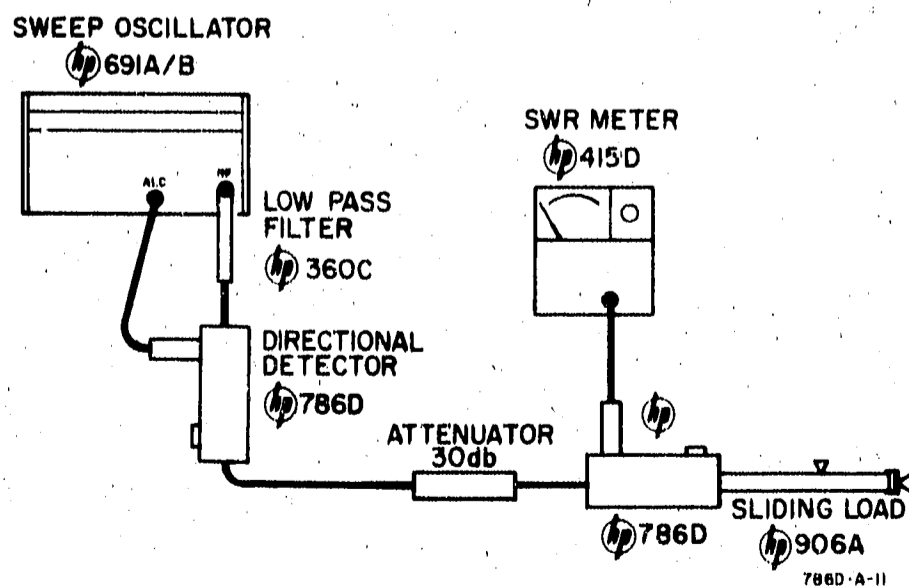

Figure 10. Directivity Check
- Set up equipment as shown in Figure 10.